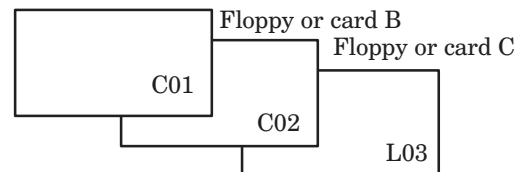

**Fig.8.8.1 (a)**
- 10 Press soft key **[CAN]** to return to the soft key display shown in the screen of **Fig. 8.8.1(a)**.